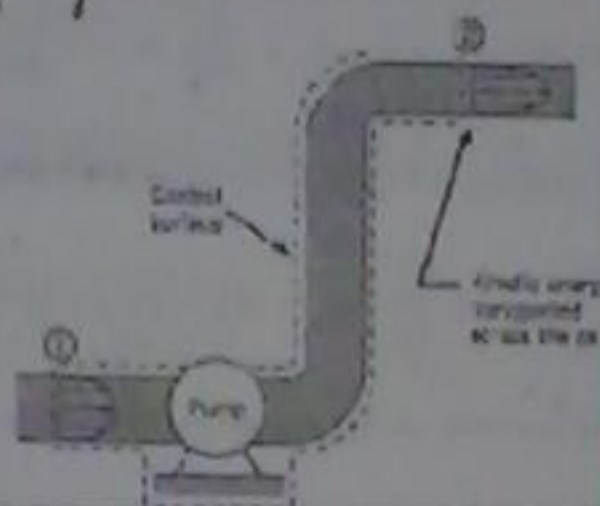

Figure 7.4 Flow carries kinetic energy into and out of a control surface.
Figure 7.4 shows fluid that is pumped through a pipe. At sections 1 and 2, kinetic energy is transported across the control surface by the flowing fluid,
The simplified form of the energy equation is obtained by applying equation (4) to the control volume in Figure 7.4 and assuming steady flow,